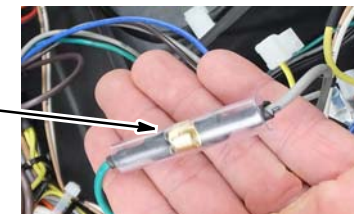

Fig. 7
2. Connect the routed ec-H2O harness wires to the control console components as shown (Figure 7). Locate the factory installed wires (Gray/8, Green/25) and connect to ec-H2O switch. The factory installed wires are connected together as shown below.